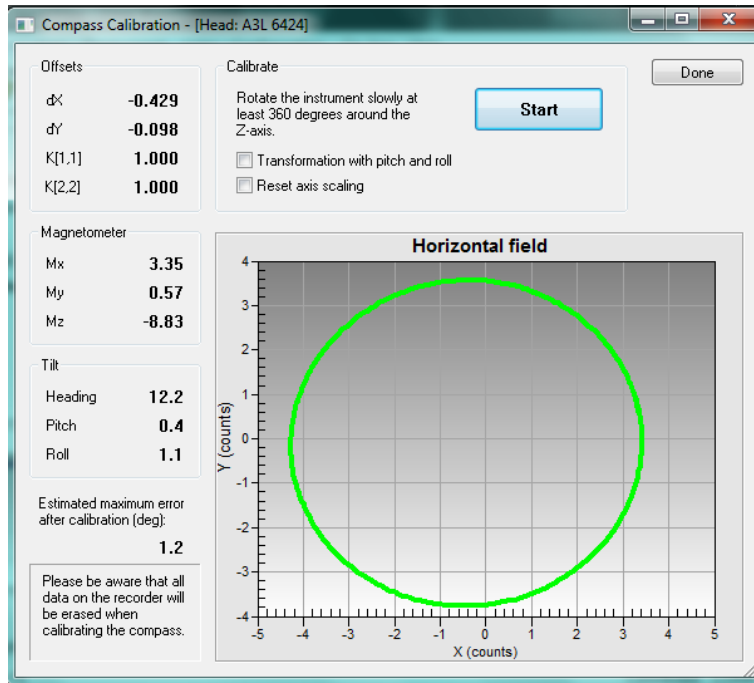

Figure 18: Aquapro Compass Calibration Screen
7. Click *Start* (Figure 18) After Rotation Commences